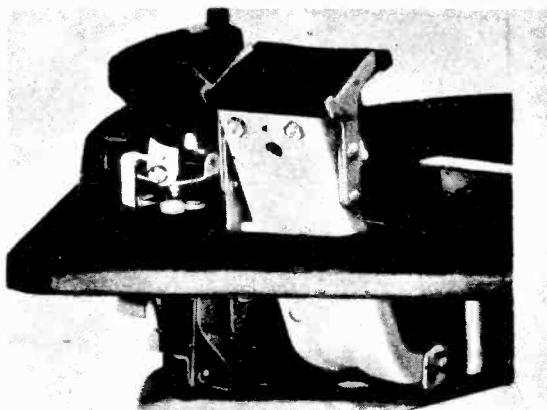

FIG. 3 - REAR VIEW WITH CENTER ESCUTCHEON REMOVED
- 4 - The twelve inch position is indexed automatically by the pressure of a 12 inch record on the front of the push-off fingers. These fingers are pivoted and gravity balanced and must move freely. (See Fig. 3).